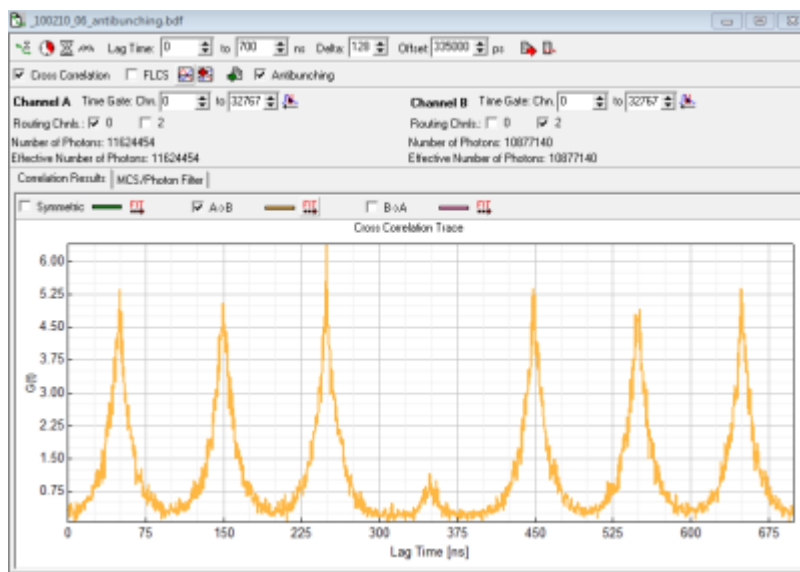

Figure 1: Correlation of Antibunching Measurement. Sample Diamond_NV_centers. Laser rep. rate 10 MHz for details
Figure 2: Correlation of Antibunching Measurement. Sample Diamond NV centers. Laser repetition rate 40 MHz. Note the peak near the expected dip at lag-time=0 due to SPAD afterglow. Compared with figure 1 the expected dip has not been shifted to the center of the x-axis and the emission bandpasses have not been placed directly in front of the detectors but in the emission filter wheel in front of the tube lens.
- depending on preference set laser repetition rate in order to allow full fluorescence to fully decay or highest possible rate or cw-excitation. The advantage of the highest possible repetition rate (or even cw) is better resolvability of the dip, disadvantage is that fluorescence does not decay completely during the pulses. (Compare figure 1 (10MHz) rep. rate and figure 2 (40 MHz) rep rate).
- However to move the expected “dip” to the center of the x-axis we here use the half of the x-axis range minus the difference in cable length (700ns/2 - 15 ns = 335000 ps). (see figure 1)
The symmetric correlation, which is shown automatically will only show a small “dip” as it is the average of **AxB** **AND** **BxA** in the case of figure 1 **AxB** will have its dip at 350 ns and **BxA** will have its dip at -350 ns. Therefore only one of both correlation (here **AxB**) should be displayed.